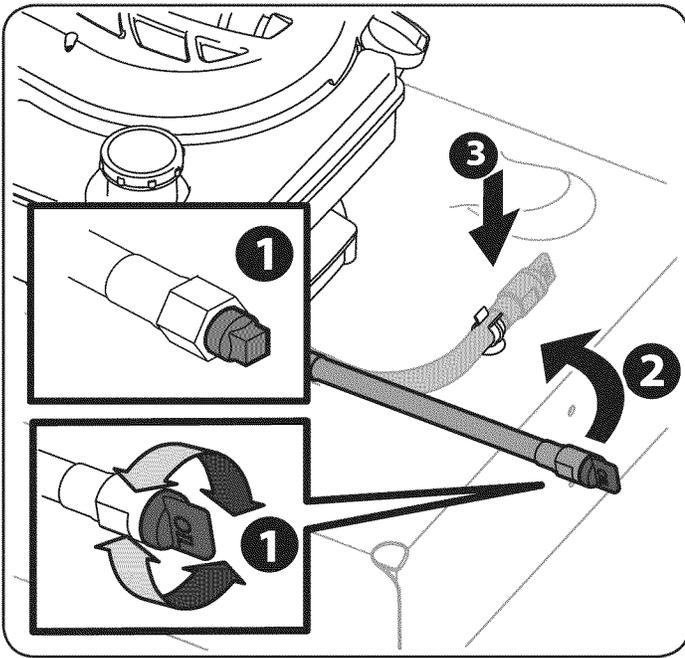

Figure 18
**NOTE:** The engine is equipped with either a plastic twist-off or metal square head cap. Refer to Figure 18 insets.
4. After the oil has finished draining, screw the cap back onto the end of the oil drain hose. See Figure 18 inset.
1. Position the hose back over the deck, then press the hose back into place on the deck. See Figure 18.